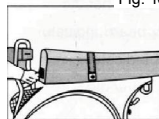
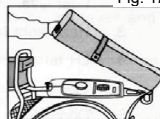

Fig. 18
Fig. 19
1.3 **Seat Lock (Dual Seat):** Insert the key, rotate it clockwise till the end then take it out. Push the lock with thumb (Fig. 18) and lift the saddle from the back (Fig. 19). Place the saddle in its normal position & press it down. To lock the saddle, follow the above procedure in reverse order.